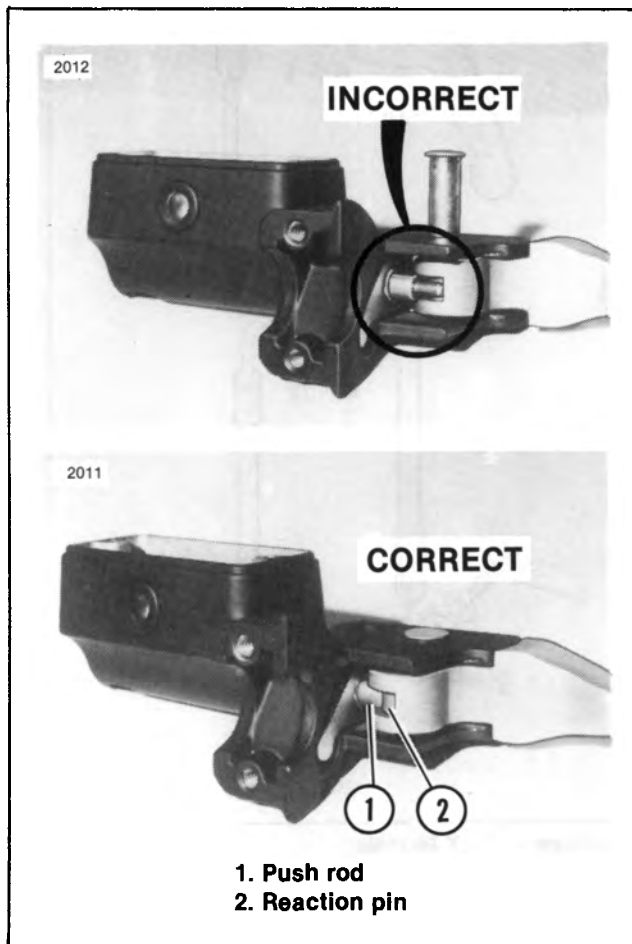

Figure 2-49. Front Brake Hand Lever Assembly
See Figure 2-49. Ensure that push rod (1) is inserted into hole in reaction pin (2). There must not be any binding of the hand lever when depressed. If hand lever does bind, push rod is hitting the inside master cylinder wall. Binding of the hand lever can result in an inoperable front brake.